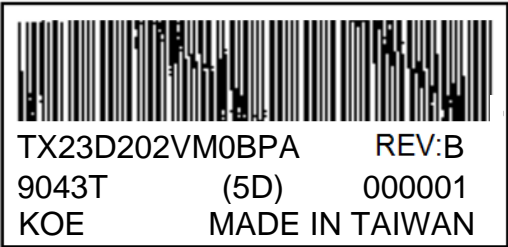

Fig 14.1
1) The lot mark is showing in Fig.14.1. First 4 digits are used to represent production lot, T represented made in Taiwan, and the last 6 digits are the serial number.
4) The location of the lot mark is on the back of the display shown in Fig. 14.1.